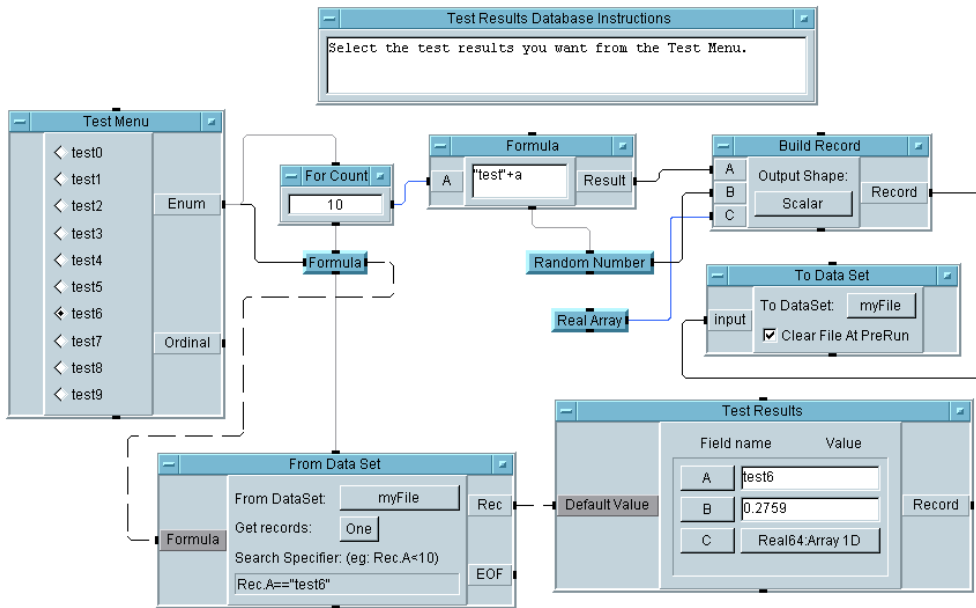

Figure 143 Adding a Menu to the Search Operation
- 13** The program should look like Figure 143. Run the program a few times to verify that it works. Since the